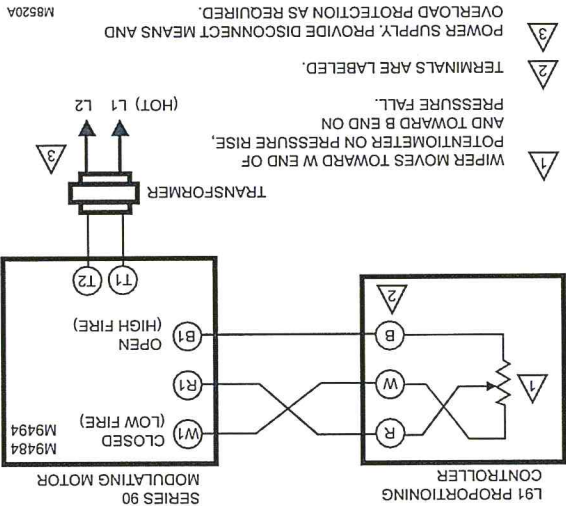

Fig. 4. Hookup of L91 Proportioning Pressuretrol®
- Refer to Fig. 4 for typical hookup. W and B connections may be interchanged at the motor for reverse action (cooling). Follow the burner or boiler manufacturer's wiring diagram if provided. Also refer to the wiring diagrams in the motor instructions.
A proportioning controller is used most often to regulate the firing rate of a burner by controlling a modulating motor (Fig. 4) or a modulating valve. The controller potentiometer, the feedback potentiometer in the motor (or in the valve actuator), and a balancing relay in the motor (or actuator) form an electric bridge circuit. As long as the pressure of the controlled medium remains at the setpoint of the controller, the circuit is balanced; that is, equal the relay contacts are open. When the circuit is balanced, the motor (or actuator) does not run. If the pressure of the medium rises, the wiper in the controller moves toward W. This unbalances the circuit, so a larger current flows through one side of the balancing relay. The close contacts in the relay make, causing the motor (or valve actuator) to drive toward its closed position. As the motor (or actuator) runs, the wiper on the feedback potentiometer moves in a direction to balance the circuit. When the circuit is again in balance, the balancing relay contacts open and the motor (or actuator) stops. The valves and dampers connected to the motor or actuator will be partially closed, decreasing the firing rate and reducing the pressure. Similarly, if the pressure of the controlled medium falls, the wiper on the controller potentiometer moves toward B, and the open contacts in the balancing relay make. The motor (or actuator) drives toward its open position until circuit balance is achieved. The valves and dampers will be opened wider and the firing rate will increase, thus increasing the pressure. A small change in the pressure of the controlled medium will cause a change in the firing rate to compensate for it, thus keeping the pressure constant. This process is called modulation.